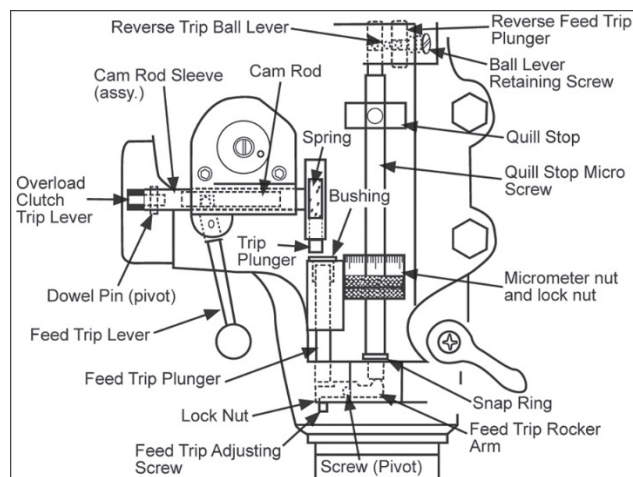

Figure 21
- c. Turn ram adapter worm nut (B, Figure 21) to tilt head forward and backward. Use scale on ram adapter to locate desired angle.
Refer to Figure 21.